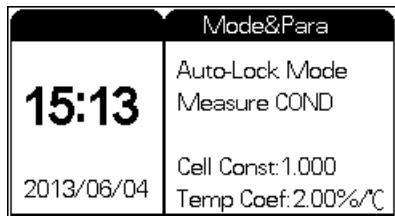

Figure 10 The initial state
- 2 After the self-check is completed, the display shows the initial state. See Figure 10. The left side shows the system time. The right side shows the setting: measuring mode, parameter, cell constant, and temperature coefficient.